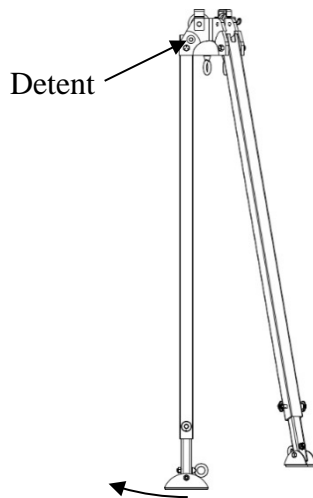

Figure 5
Figure 5 – Opening the Leg	7
3. Pull each leg out at the bottom until the detent in the head assembly locks the leg in place (Figure 5)